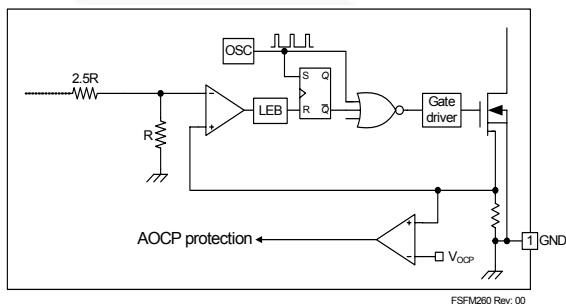

**Figure 20. Overload Protection**
**3.1 Overload Protection (OLP):** Overload is defined as the load current exceeding a pre-set level due to an unexpected event. In this situation, the protection circuit should be activated to protect the SMPS. However, even when the SMPS is in the normal operation, the overload protection circuit can be activated during the load transition. To avoid this undesired operation, the overload protection circuit is designed to be activated after a specified time to determine whether it is a transient situation or an overload situation. Because of the pulse-by-pulse current limit capability, the maximum peak current through the SenseFET is limited and, therefore the maximum input power is restricted with a given input voltage. If the output consumes beyond this maximum power, the output voltage ( $V_O$ ) decreases below the set voltage. This reduces the current through the opto-coupler LED, which also reduces the opto-coupler transistor current, increasing the feedback voltage ( $V_{FB}$ ). If  $V_{FB}$  exceeds 2.5V, D1 is blocked and the 5 $\mu A$  current source starts to charge  $C_B$  slowly up to  $V_{CC}$ . In this condition,  $V_{FB}$  continues increasing until it reaches 6V, when the switching operation is terminated, as shown in Figure 20. The delay time for shutdown is the time required to charge  $C_B$  from 2.5V to 6.0V with 5 $\mu A$ . In general, a 10 ~ 50ms delay time is typical for most applications.